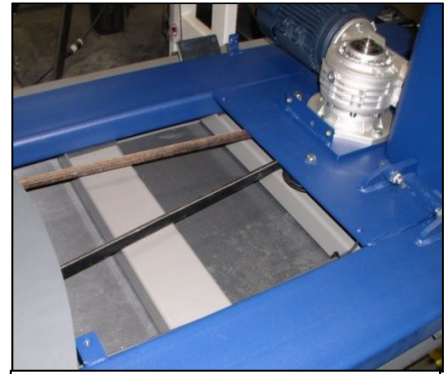

Figure 7.7
1. Use a 5 mm hex wrench to remove the belt guard from the base (Figure 7.7).